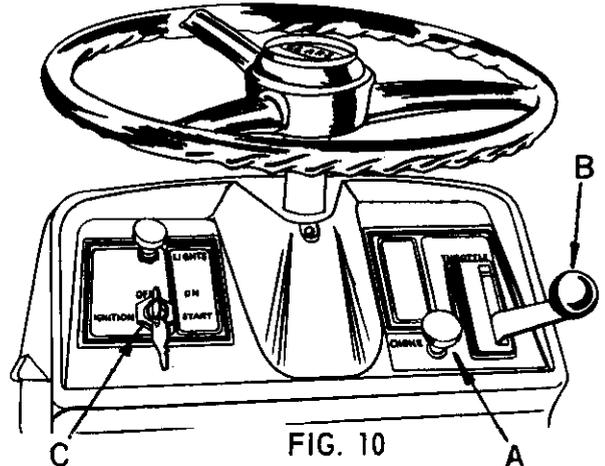

FIG. 10
4. Pull out choke control (A, Fig. 10), to full choke position to start in cold weather.
5. Advance throttle control lever (B, Fig. 10), to about 1/2 throttle.
6. This tractor is equipped with a safety start switch. It is therefore necessary to depress foot pedal before engine can be started. Depress foot pedal all the way and turn ignition-start key (C), clockwise to engage starter. When engine starts, release key. After engine starts, push in choke control (A), as engine warms up. Let engine warm up before applying load. CAUTION. Do not run starter continuously for more than 30 seconds at a time. If after several attempts, engine does not start, move throttle control (B), to FAST position. Wait for two minutes and try again.
7. To stop engine, turn key (C), in a counter-clockwise direction to OFF position. Key should be removed so children can not start tractor.